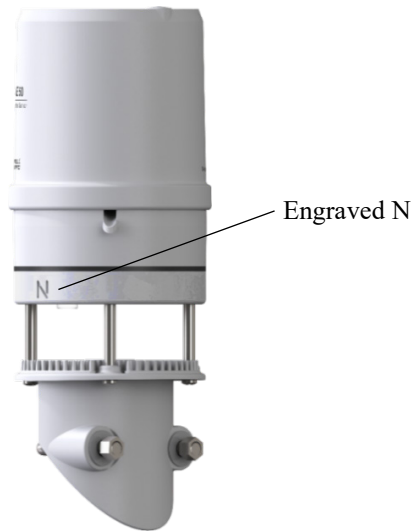

FIGURE 7-3. Engraved N on the ClimaVUE 50
3. Orient the ClimaVUE 50 so that the engraved **N** points to True North (FIGURE 7-3). Appendix C, *Determining True North and Sensor Orientation* (p. C-1), contains detailed information on determining True North using a compass and the magnetic declination for the site.